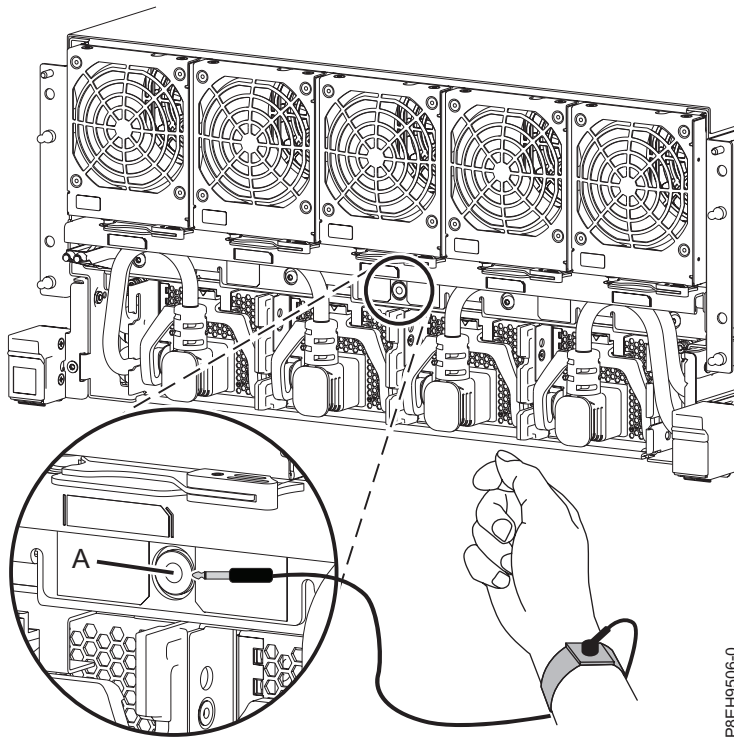

Figure 8. Attaching the wrist strap to the front ESD jack
- a. Attach the wrist strap. Your system has an electrostatic discharge (ESD) jack. Plug the wrist strap into the ESD jack in the front of the system. See Figure 8.